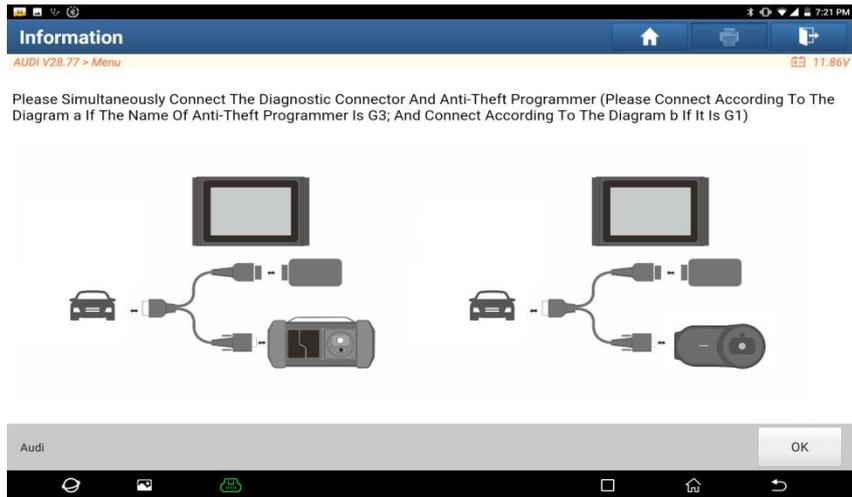

Figure 4
3.2.1.3 Click [5th Generation Immobilizer], as shown in Figure 4.